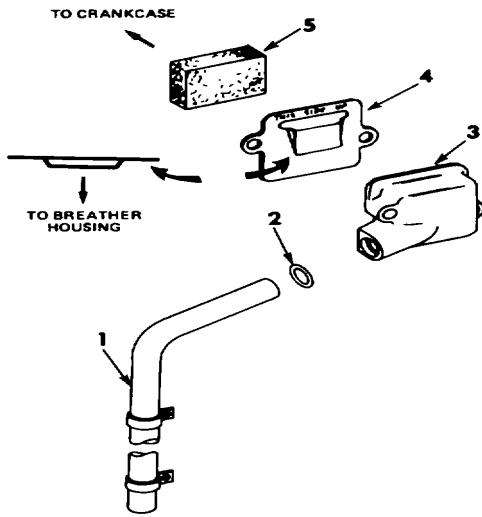

Figure 22. - Conventional Crankcase Mounted Breather Assembly
- a. Remove the screws securing the breather tube (1, Fig. 22) and the screws securing the housing (3).
- b. Remove the housing (3, Fig. 22), baffle housing (4) and element (5).
- c. Install a new breather element (5, Fig. 22) and a new baffle housing (4). Install body (3) with tube (1) and secure hardware.